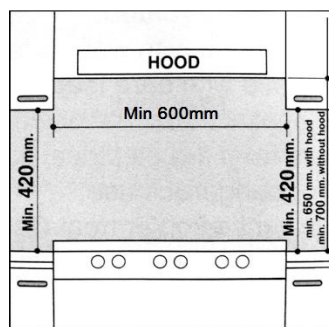

FIG. 5
- › The cabinets positioned next to the hood should be at a height of at least 420mm (Fig. 5).
- › Should the hob be installed directly under a cupboard, the cupboard should be at least 700mm from the worktop, as shown in Fig.5.